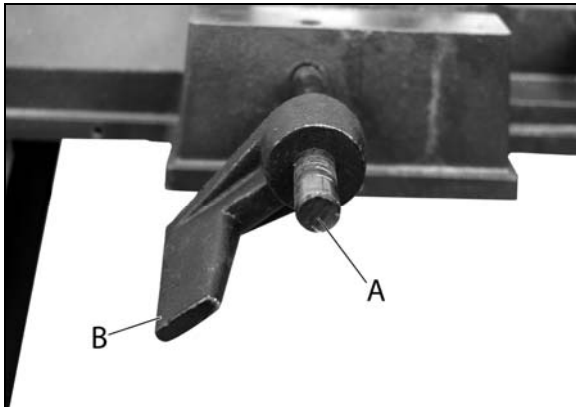

Figure 14
1. Position the stop block (A) (see Fig.14) the desired distance away from the blade. It is good practice to have the work contact the stop rear the bottom of the work-piece, as shown.